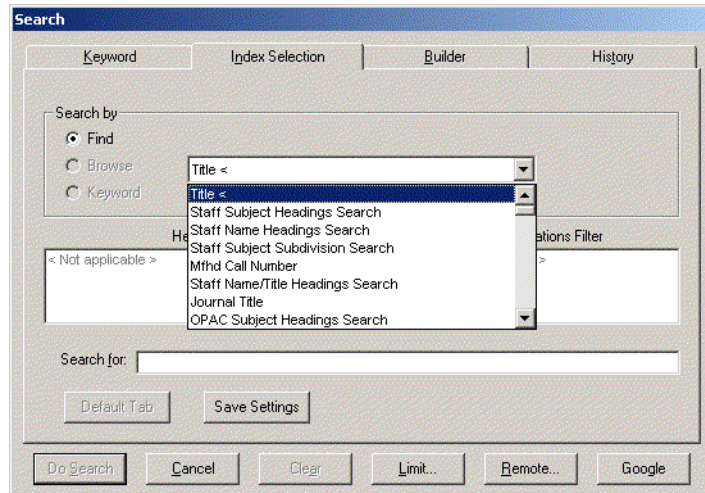

Figure 2-54. Type of search
2. Select the type of search wanted from the drop-down list (see Figure 2-54).